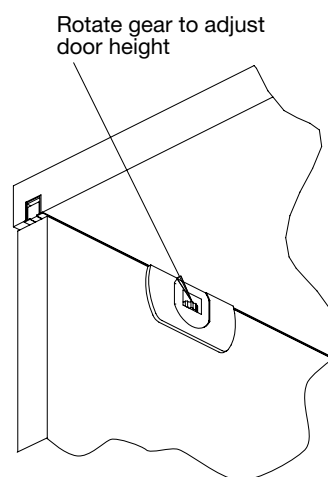

Figure 7
2. (If required) The doors can be leveled using the gear mechanism on the running gears which provides $\frac{1}{8}$ " of adjustment up and down for a total of $\frac{1}{4}$ " adjustability. (Fig. 7)